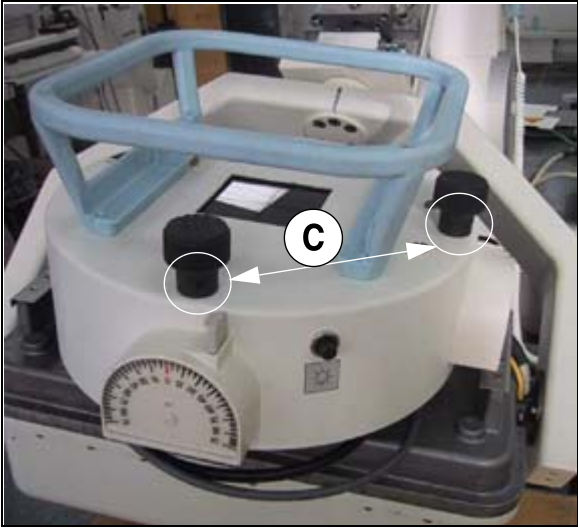

Fig. 19: Collimator rotary knobs
- Remove the two adjustment knobs of the collimator (2 mm Allen wrench) (C/Fig. 19 / p. 53).